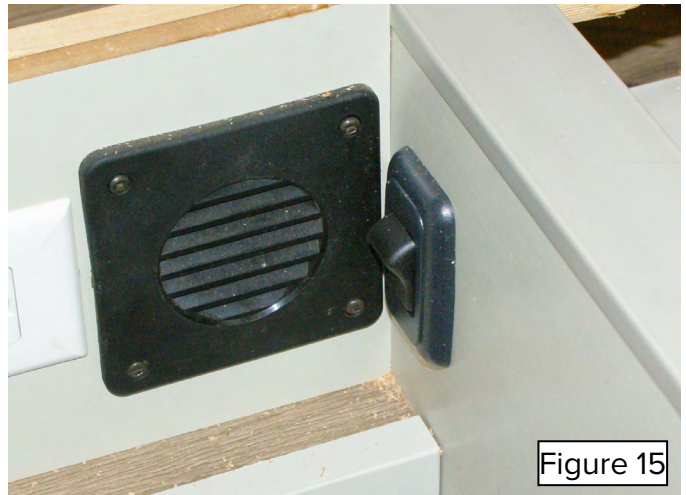

Figure 15
18. Snap the switch cover into place over the switch (Figure 15).